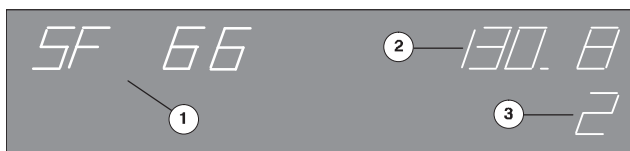

Fig. 17 SF 66: Press angle display
1. Select special function SF 66: the display shows, besides the number of the special function (Fig. 17/1), the current press angle in degrees (Fig. 17/2), and under this the deviation in degrees (Fig. 17/3), if the circumferential register was adjusted. A negative sign means the print image has been shifted forwards towards the gripper bite. No sign means it has been shifted towards the rear edge of sheet.